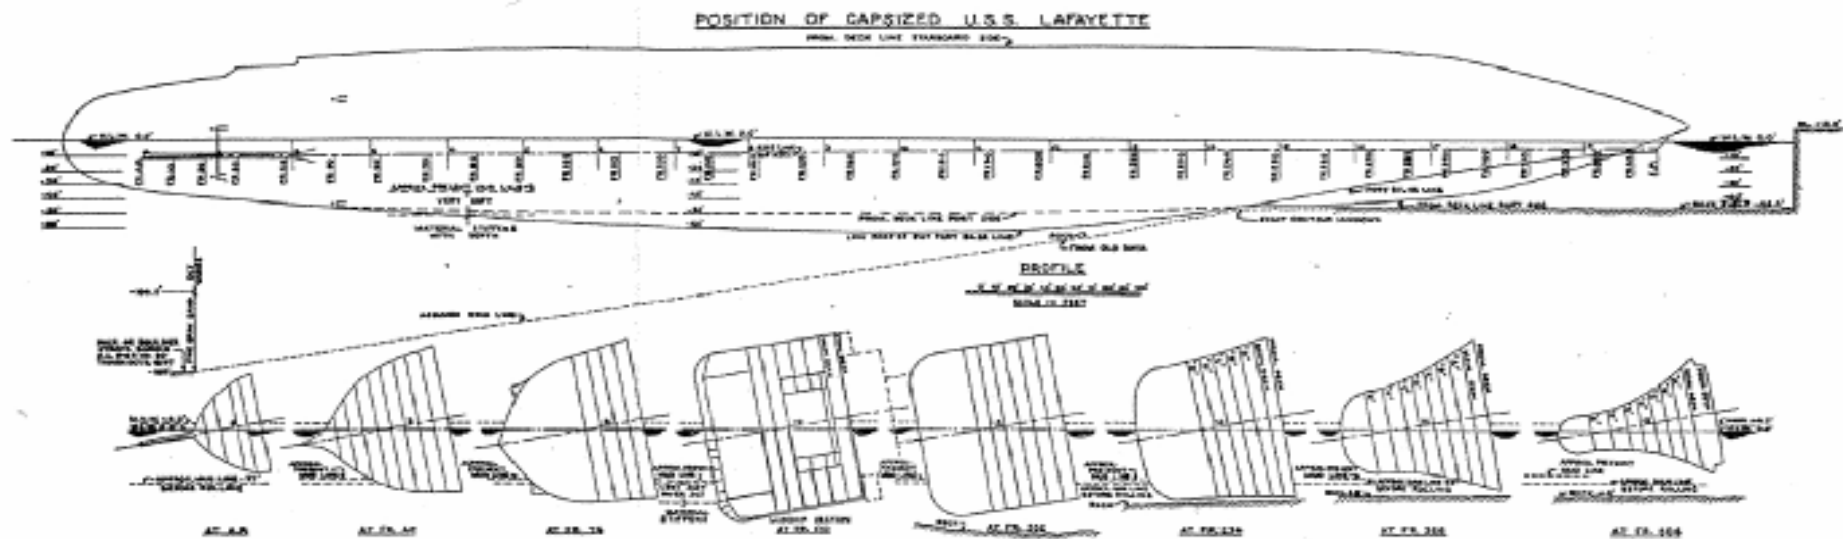

Figure 17
16. The third stratum consisted of gray-fine sand which rested on the bedrock. (See fig. 17.)